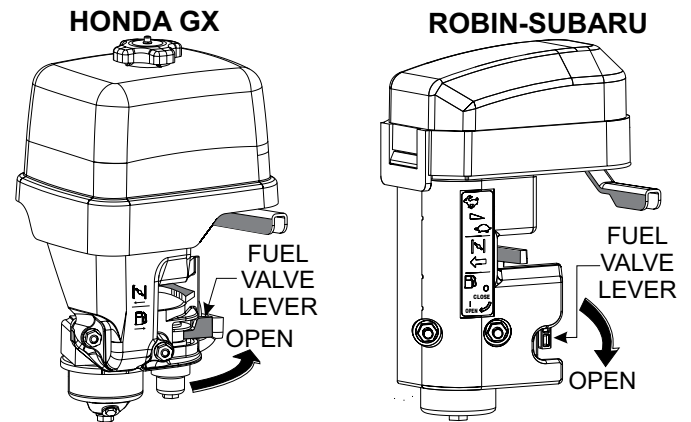

Figure 23. Engine Fuel Valve Lever (ON)
1. Place the engine fuel valve lever (Figure 23) in the **OPEN** position.